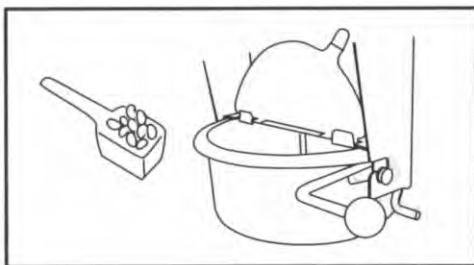

Fig.2
7. Next pour popcorn and seasoning from Gourmet Tri-Pak pouch into pre-heated oil. (Fig. 2) If using bulk kernels, measure the amount of corn by using the measuring scoop provided. Use one scoop per batch. Open the lid and add the popcorn. **Caution:** Lid is hot; we recommend wearing oven mitts or potholders. Close lid.